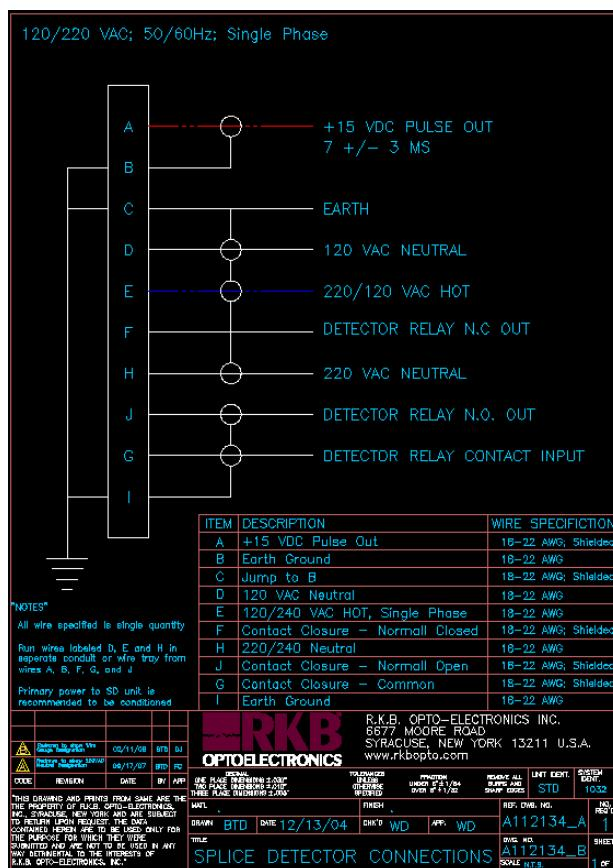

Figure 4 – Model 1032C Cabling Diagram
B. ELECTRICAL INSTALLATION (*figure 4*).